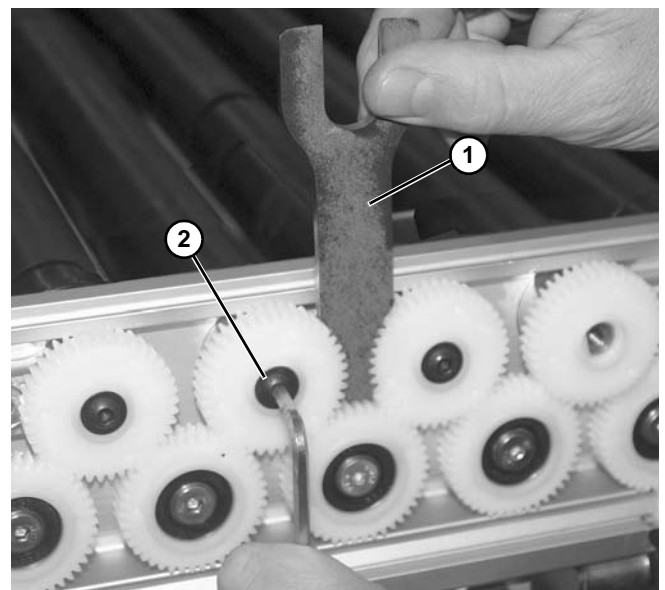

Figure 116
3. Install sprocket removal tool, part number 400289 (Figure 116, item 1) between gears.
4. Remove screw (Figure 116, item 2) holding gear onto roller shaft.